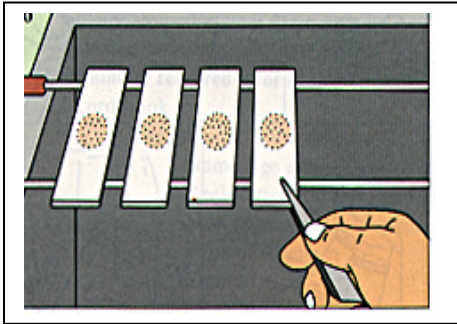

Fig 13
- Place the slides in serial order on the staining rack with the smeared side facing upwards (Fig 13).